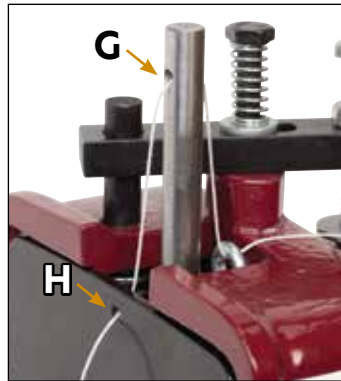

Figure 8
- 4) Run thread through top of Needle Bar **(G)** and through Top Hole in Side Plate **(H)**. **(Figure 8)**